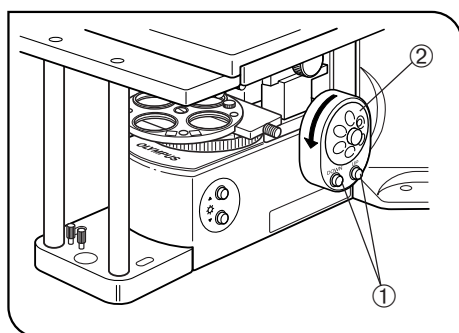

Fig. 51
### Adjusting the Confocality of Objective (Figs. 51 & 52)
4. The objective to use the washer is determined by the rotation direction of the fine adjustment dial ②. (Fig. 51)
5. Remove the objective ③, fit the washer ⑤ with the required thickness on the screw ④, and then attach the objective again.